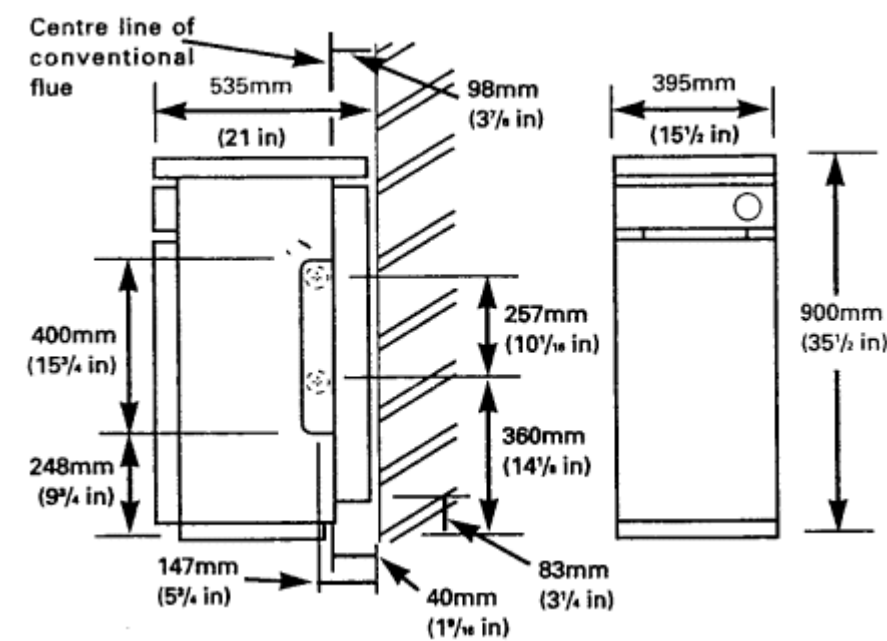

fig 2 - Outer Case
- b) The pipework will run through the cutouts provided in the outer case (Fig 2).